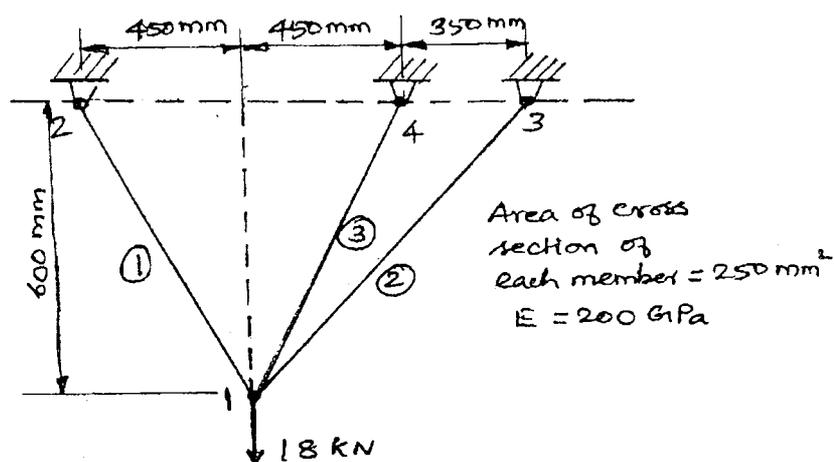

Fig. 2
- (b) For the three-bar truss shown in Fig.2, determine the displacements of node 1 and the stress in element 3.